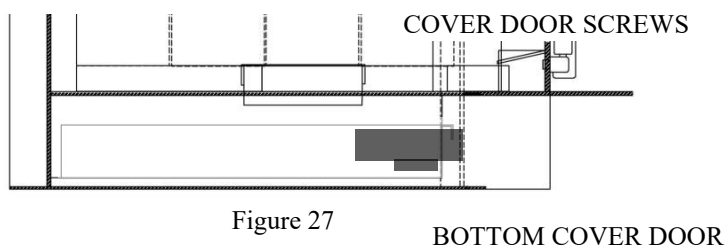

Figure 27
2. To replace motor you must first take bottom cover door off. Do this by removing two screws holding it in place. See Figure 27.